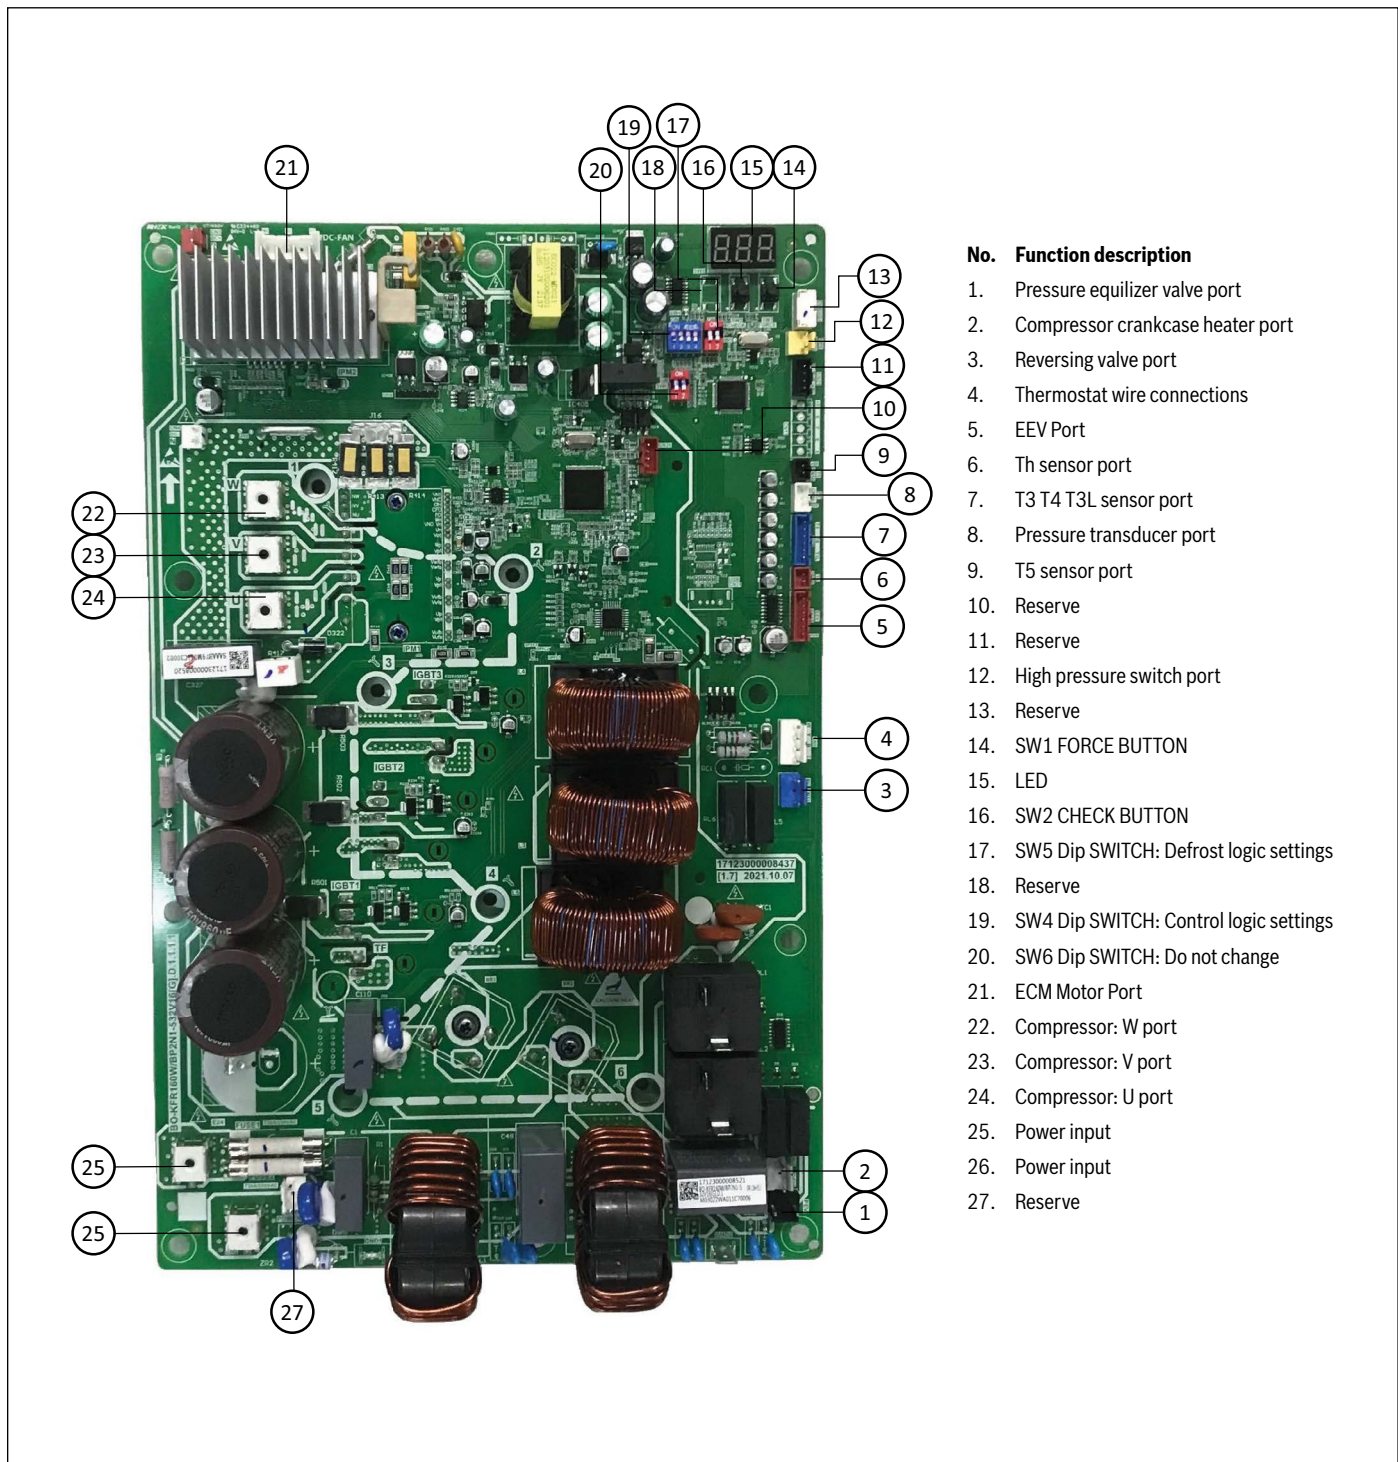

Figure 32
- To display system parameters, press the “Check” button to index through the series of parameters available. The first time you press the “Check” button, it will display the sequence, and after 1 second it will display the value of the parameter. If you press the “Check” button again, it will display the next sequence. Refer to Figure 32 for check button location on the control board.